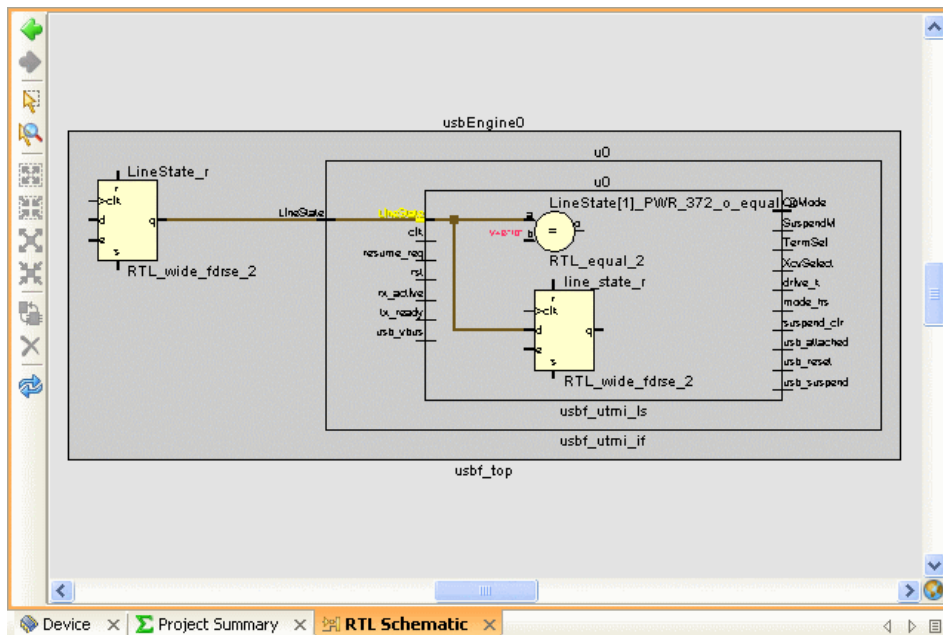

Figure 19: Expanding Logic in the RTL Schematic View
- 3-5-2.** Outside the `u0` module double-click on the **LineState** pin to expand the logic (Figure 19).